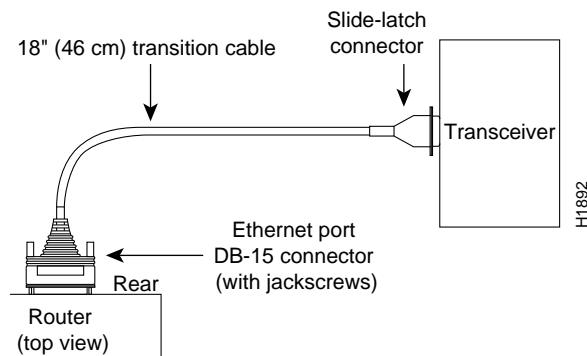

Figure 2 Ethernet Transition Cable Connections
Step 1 Connect the Ethernet port to the network as shown in Figure 2.